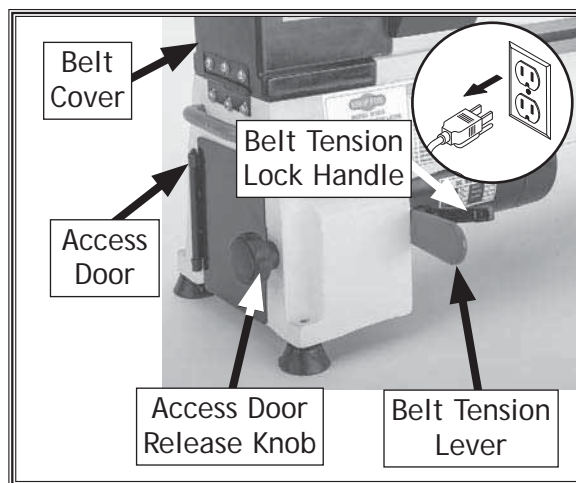

Figure 16. Location of components used when changing spindle speed ranges.
2. Fold back belt cover to expose spindle pulley. Pull access door release knob and open access door to expose motor pulley (see Figure 16).